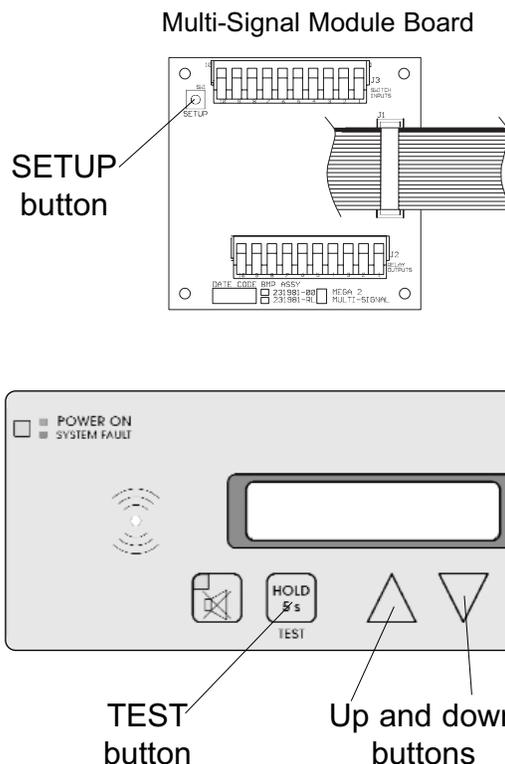

Figure 48: Digital Display Programming Buttons
2. Locate SETUP button on circuit board of multi-signal module to be adjusted (Figure 48).